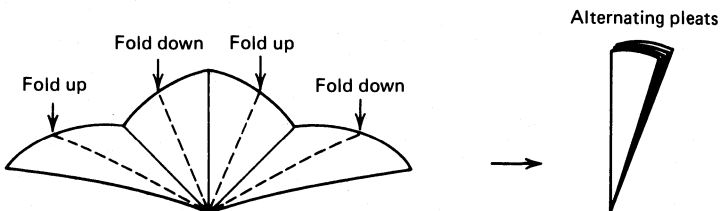

Fig. 51 Refolding to a fan.
3. OK. Now try a “fan fold.” You alternately fold, first in one direction then the other, every individual eighth section of the semicircle (Fig. 51).